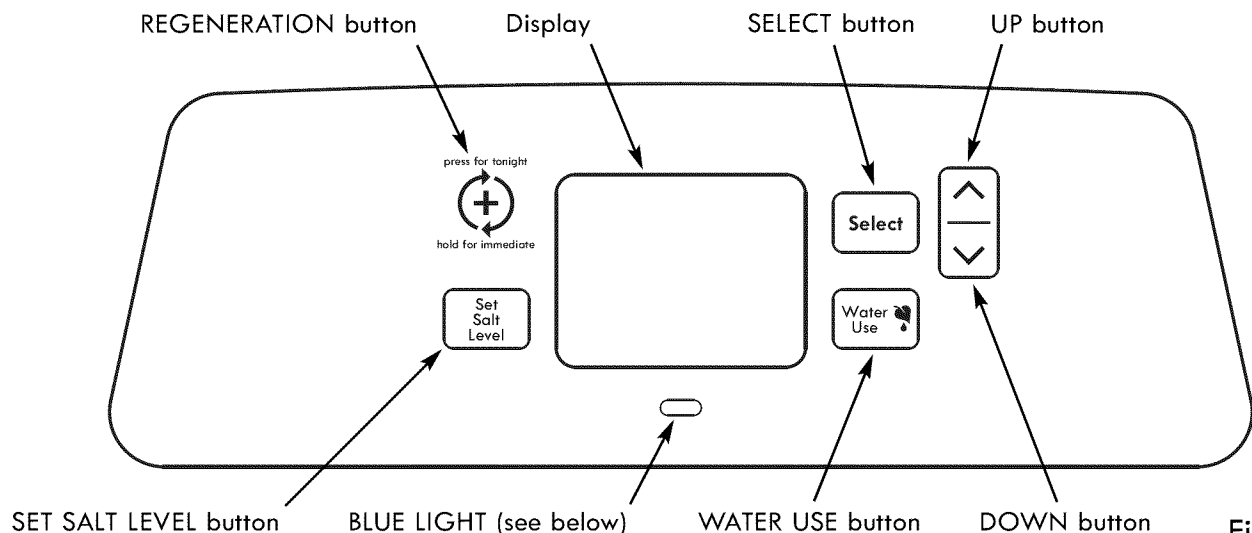

Figure 15
5. Initiate a regeneration by pressing and holding for 3 seconds the REGENERATION button (see Figure 15 on page 12). The valve motor will start running and the valve will advance to the "Fill" position.